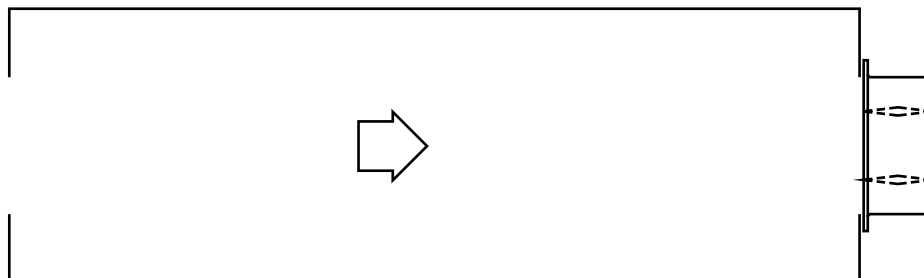

Figure 5.5
**Figure 5.2** Illustrates a ducted damper exhausting air into an open area. This configuration has a lower pressure drop than Figure 5.5 because entrance losses are minimized by a straight duct run upstream of the damper.
**Figure 5.5** Illustrates a plenum mounted damper. This configuration has the highest pressure drop because of extremely high entrance and exit losses due to the sudden changes of area in the system.